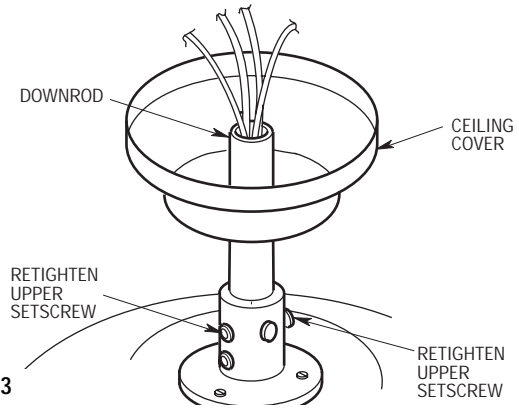

Figure 3
- 4. Place the ceiling cover over the downrod, making sure that the large opening faces upward (Figure 3).